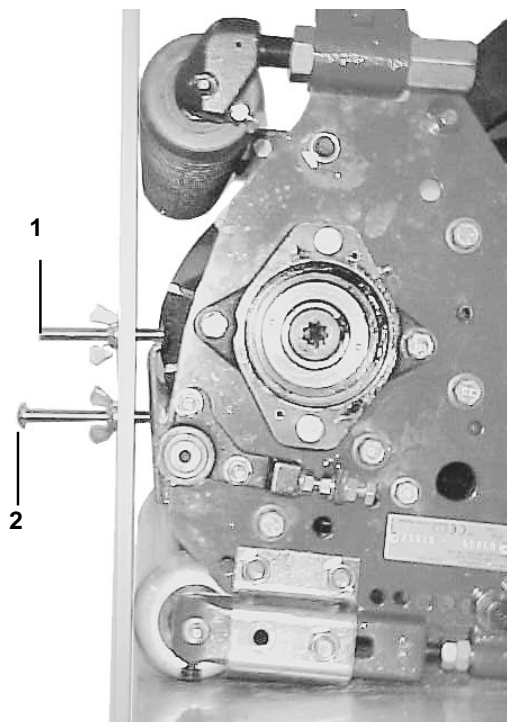

Figure 23
2. With the cutting unit rotated backward, place the gauge bar across the front and rear rollers. The first screw head should fit snugly over the edge of the bedknife and the end of second screw should contact the bottom of the bedknife (Fig. 23). Verify the rear roller (height of cut) at each end of the